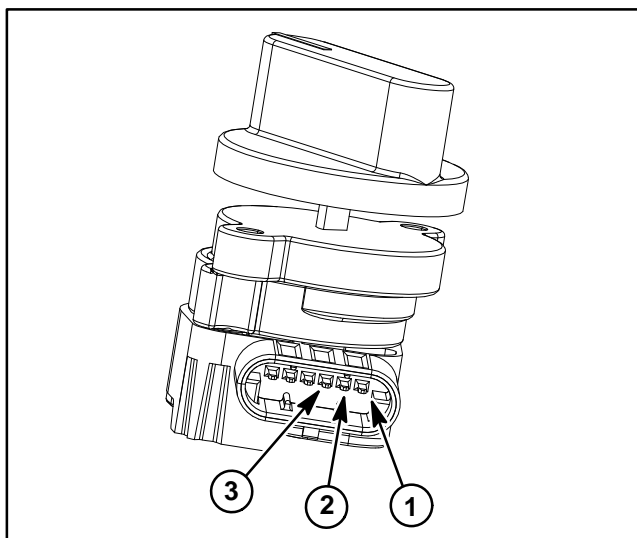

Figure 69
5. Using a multimeter, measure resistances between potentiometer terminals as follows (Fig. 69):